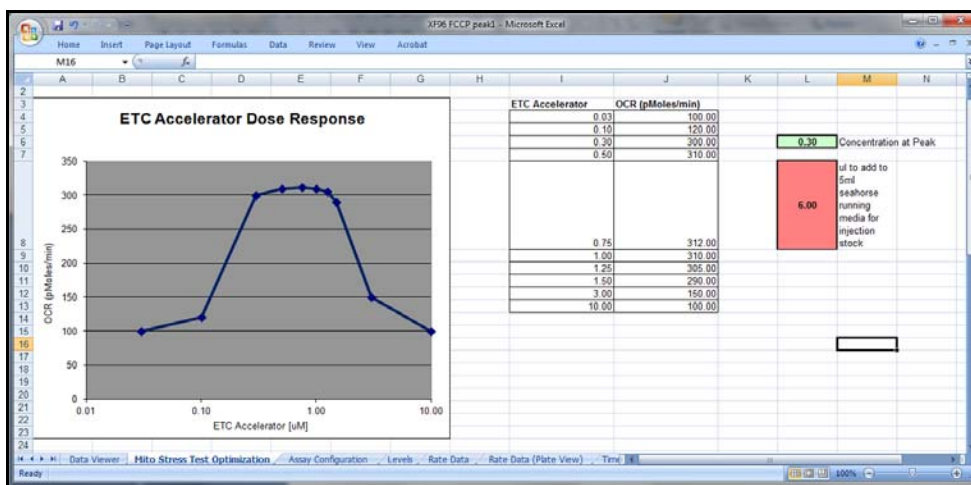

Figure 4.1
1. When the optimization experiment is complete, open the excel data output file, and choose the worksheet tab labeled 'Mito Stress Test Optimization' (see Figure 4.1).